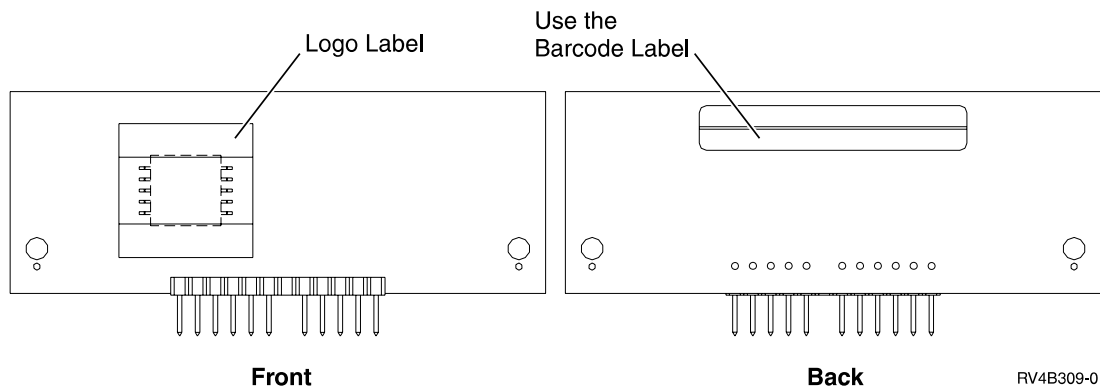

Figure 90. Interactive Card
- a. Read the logo label that is covering a module on the front of the interactive card that you removed from the system (this label is square with an IBM logo on it.) See Figure 90 on page 858.